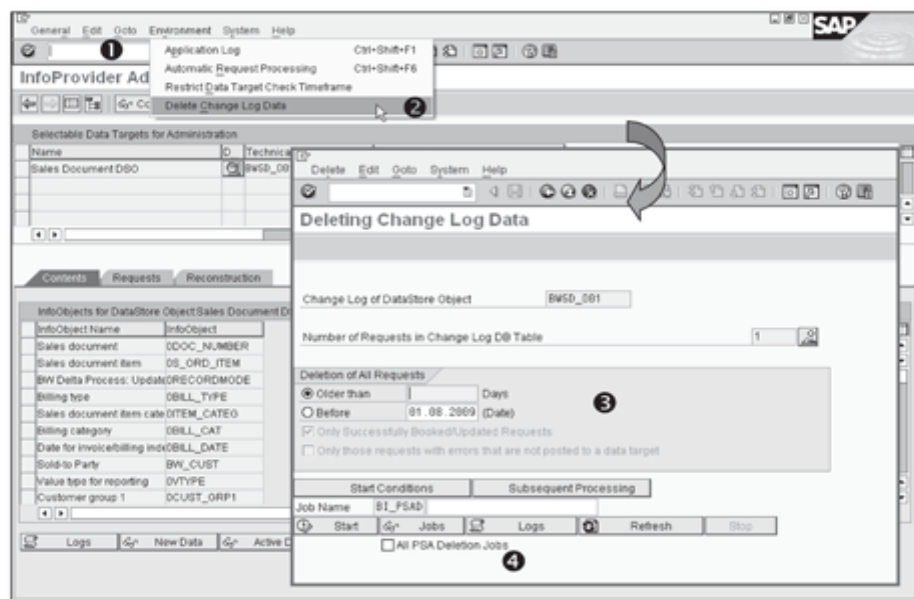

Figure 14.10 Delete Change Log Data
As time goes by, data in the Change Log table builds up, negatively impacting activation processes in the system. To delete change log data, follow this menu path: ENVIRONMENT • DELETE CHANGE LOG DATA (❶ & ❷ of Figure 14.10).